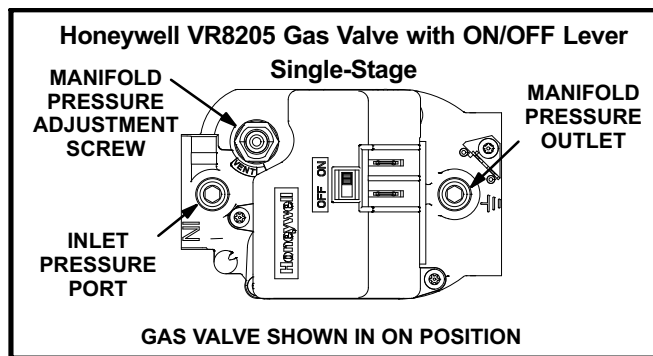

FIGURE 15
The Honeywell valve is adjustable for both low fire and high fire. Figures 15 and 16 show gas valve components. Table 9 shows factory gas valve regulation for LGH series units.
Gas Valve Operation (figures 15 and 16)
- 5- *Honeywell VR8205 Gas Valve with ON/OFF Lever* - Switch gas valve lever to **OFF**. See figure 15.
- 6- *Honeywell VR8205 Gas Valve with ON/OFF Lever* - Switch gas valve lever to **ON**. See figure 15.